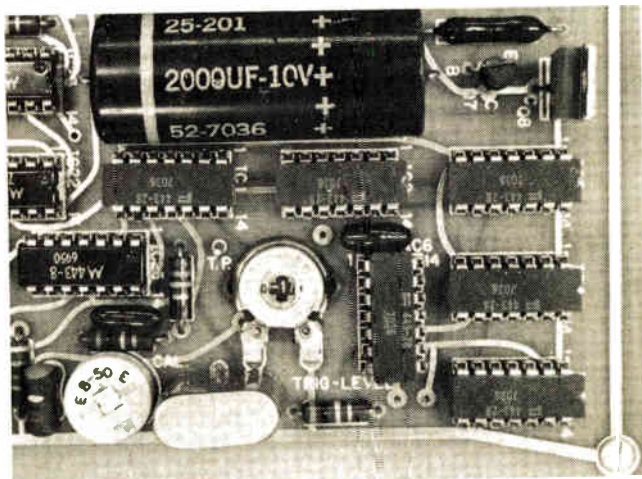

Fig. 1—The clock and divider chain in Heath's IB-101 Frequency Counter.
■ The first of the two previous articles in this series was concerned with modifying the applied signal so that it would properly trigger the first flip-flop circuit in Heath's IB-101 Frequency Counter (page 56 of November issue), while the second explained how flip-flop circuits—designed to count only between zero and one—can be combined for counting to ten (page 45 of the December issue). This, the third article in the series, is kind of a break from the detail in the previous articles—particularly the last one. It is merely concerned with the signal generated by the crystal oscillator, and the use of decade counters to produce signals for switching ON and OFF the frequency-counter circuitry at appropriate intervals. This circuitry (Fig. 1)—the clock and divider chain—were originally shown in the lower left of the